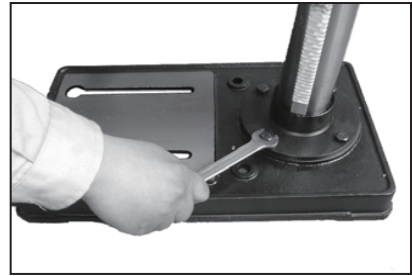

Figure 1
- 1.4 Place a bolt in each hole through the column support and the base. Tighten with an adjustable wrench. **See Fig. 1**